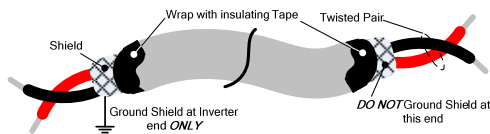

Fig. 4.2.1 Shielded Twisted-Pair
- Separate the wiring for control circuit terminals RA-RB-RC (R1A-R2B-R2C) (Relay outputs) from wiring for terminals ① - ③, A01, A02, GND, DO1, DO2, DOG 24V (or +12V, -12V), VIN, AIN, AUX, GND, IP12, IG12, A (+), A (-), S (+) and S (-).
- Use shielded twisted-pair cables (#24 - #14 AWG / 0.5 -2 mm²) shown in Fig. 4.2.1 for control circuits to minimize noise problems. The maximum wiring distance should not exceed 165 Ft. (50 m).